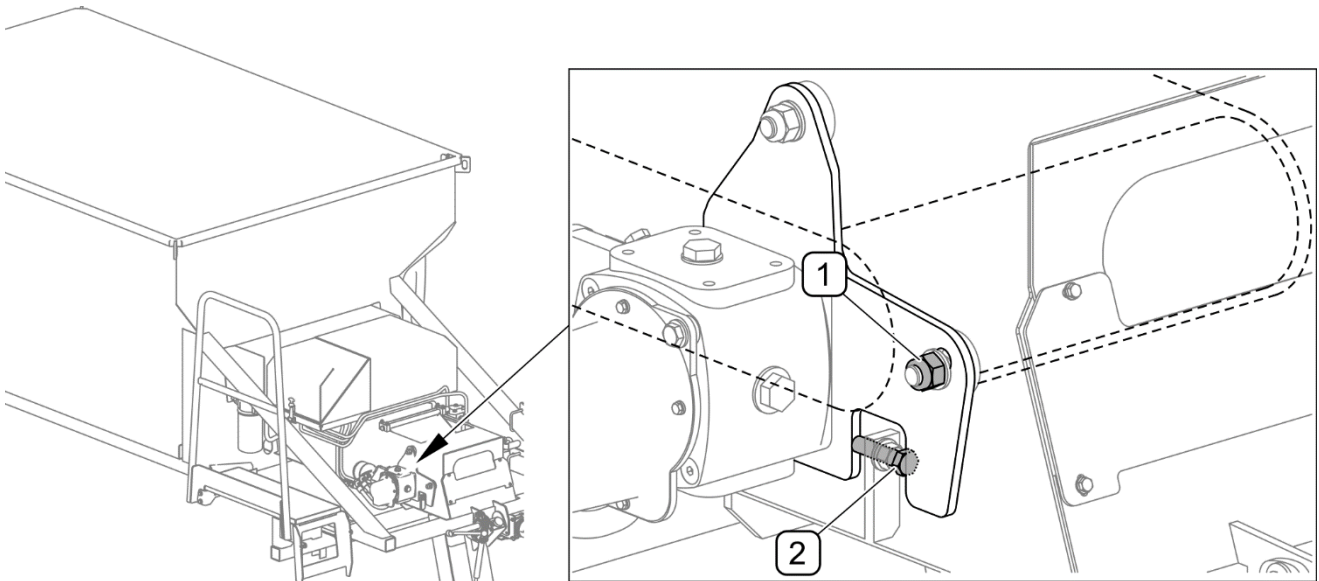

FIG. 5.9 **Adjustment of drive roller**
(1) - locking nut; (2) - adjusting screw
If the conveyor belt is shifted sideways to the edge of the conveyor drive roller (FIG. 5.9), make proper adjustment of the roller. The adjustment is made only on one side of the conveyor using bolt (2) by changing the position of the roller drive transmission bracket. To do this, connect the machine to the mains, activate "UNLOADING" function in "COUNTERS" menu on the control panel. Turn on electric motor using switch on the drive wheel column. A detailed description can be found in section 4.9 UNLOADING Loosen nut (1) and position the belt in the middle of the roller by means of adjustment bolt (2). During the adjustment, make one turn of bolt (2) and wait for some time to see the effect of the adjustment. Repeat the activity until moving conveyor belt is positioned in the middle of the conveyor roller. After adjustment, disengage conveyor drive, tighten nut (1) and switch off "UNLOADING" function on the control panel.